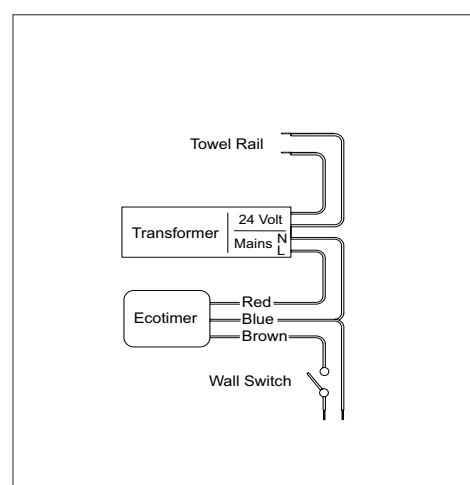

Fig 6.0 (For 24V only)
- The supplied 'ECOTIMER' is a 230 - 240V device that should be installed behind the switchplate between the switch and the towel rail (230-240V models). For 24V models the Ecotimer should be installed between the switch and the transformer. See Fig 6.0